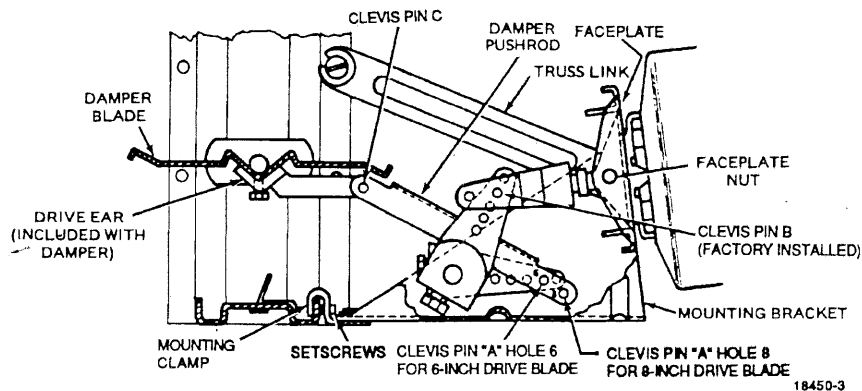

Fig. 11. Internal Mounting Normally Open Installation.
3. Use 1/8-inch Allen wrench to loosen mounting setscrews on damper mounting clamp one turn (Fig. 11). Remove and discard shipping stop.
4. Determine height of damper drive blade. Dampers with 10 (254), 12 (309), 18 (457), 26 (660), 34 (864), and 48-inch (1219 mm) height have 8-inch (203 mm) drive blades. All others have 6-inch (152 mm) drive blades.
5. For installation with 6-inch (152 mm) drive blades skip this step and go on to Step 6. For 8-inch (203 mm) drive blades, remove Clevis Pin A from damper pushrod clevis pin hole marked 6 and reinstall in clevis pin hole marked 8 (Fig. 11). (Mate with crankarm hole marked 90.)
6. Loosen faceplate nut between mounting bracket and truss link (Fig. 11). Remove Clevis Pin C from damper pushrod.